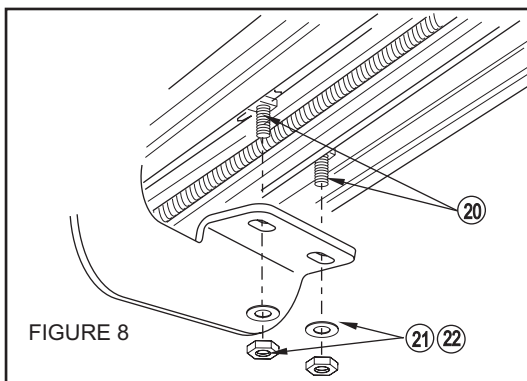

FIGURE 8
- STEP 10. Attach board to brackets as shown. Make sure board and brackets are properly aligned and tighten fasteners. Recommended torque values are 10 FT.LBS. for 5/16" square head fasteners, 26 FT.LBS. for 3/8" fasteners, and 64 FT. LBS for 1/2" fasteners. **SEE FIGURE 8.**